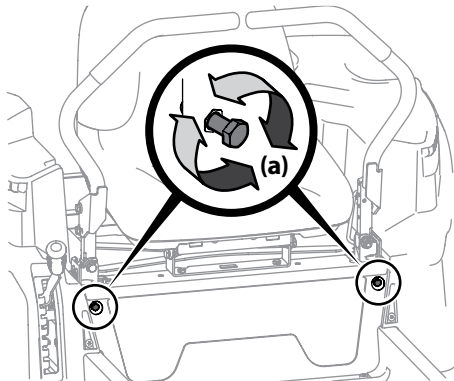

Figure 4-8
2. Locate the drive control lever stop adjustment bolts (a) on the front of the seat frame. See Figure 4-8.